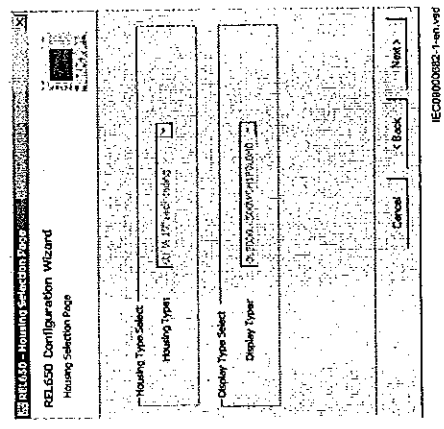

Figure 22: PCM600: IED housing and display type detection
8. Click next to open the *Housing Selection Page* and select the housing and display type of the IED, see Figure 22.